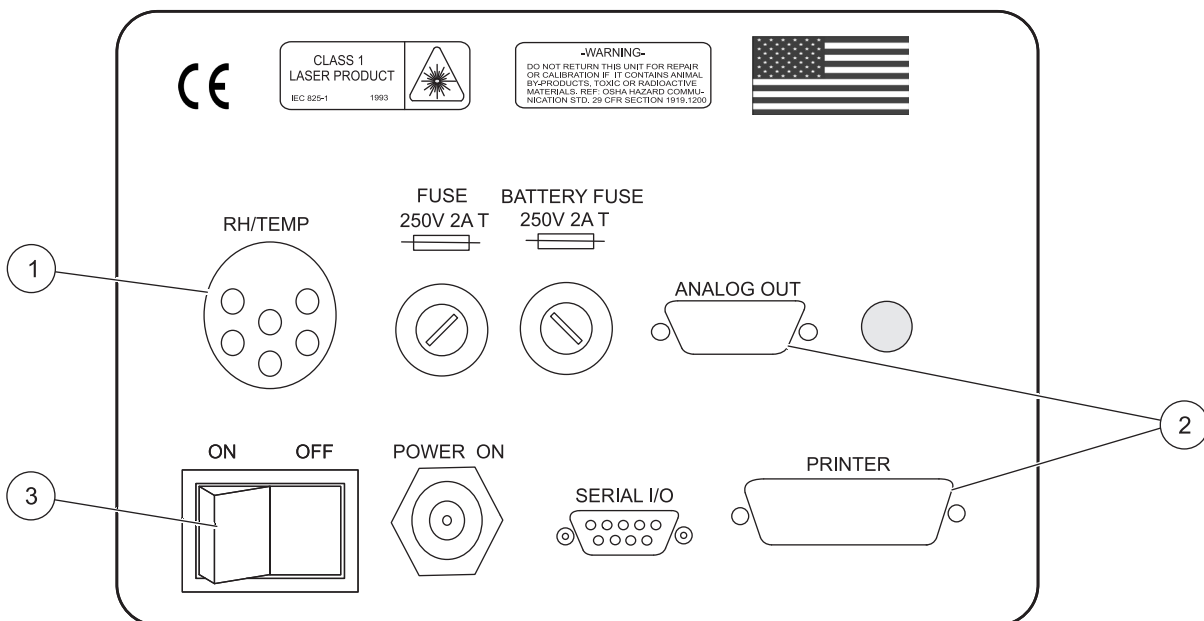
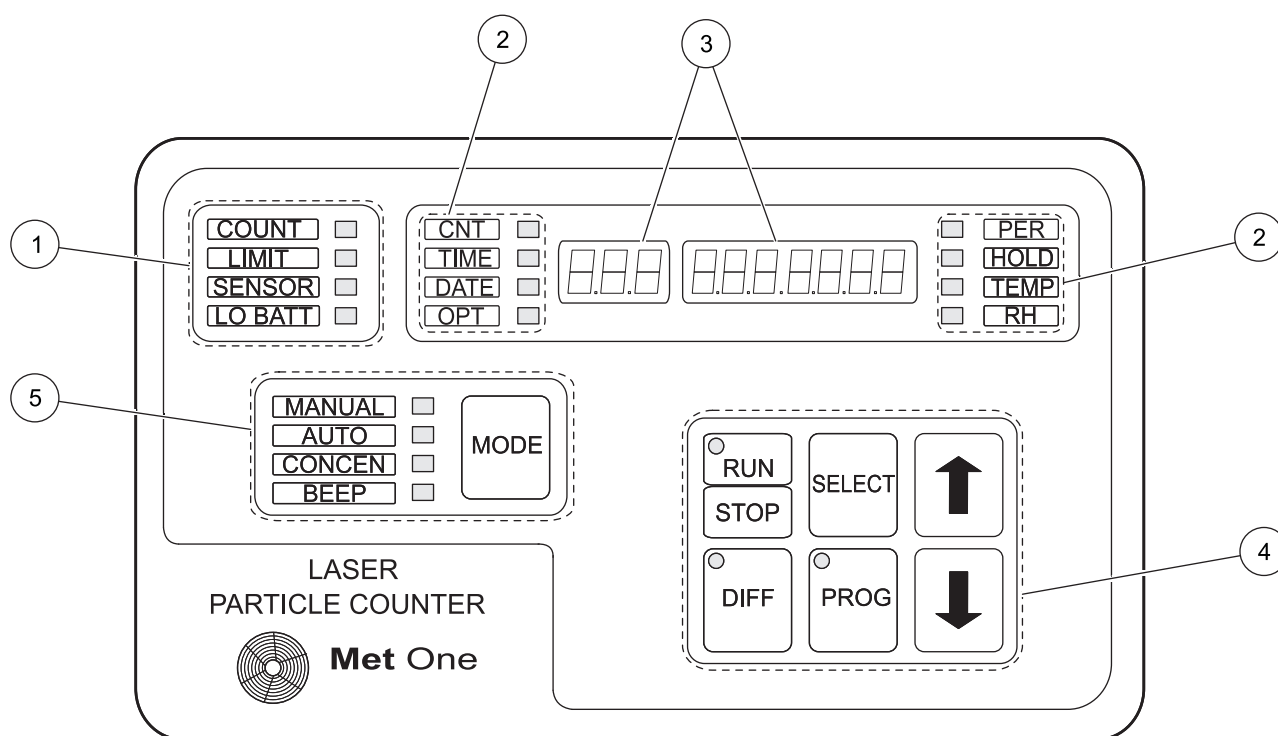

Figure 6 Rear panel connections
Figure 7 Front panel of the MET ONE 237 particle counter
2. Attach the AC adapter to the power input jack (refer to Figure 6 on page 12) at the back of the MET ONE 237 particle counter.
1. The RH/T probe is connected to the back of the unit (refer to Figure 6 on page 12, item 1).
The power switch, fuse holders and all connectors are on the rear panel of the counter as shown in Figure 6 on page 12.
Turn on the switch at the back of the MET ONE 237 particle counter (refer to Figure 6 on page 12). The counter will display the main screen when turned on (Figure 7 on page 15). If the **LO BATT** indicator is lit, plug in the AC adaptor to charge the battery. The counter may be operated during the charging of the battery.
The front panel of MET ONE 237 (refer to Figure 7) particle counter consists of:
In the Manual counting mode, the counter will take one sample of the programmed length (default is 6-seconds) and stop. The **CNT** light will be lit in the display mode (refer to Figure 7 on page 15, item 4). The particle sizes being monitored will be displayed in the 3-digit display and the actual cumulative counts will be displayed in the 7-digit display. For example: **00.5 0000000**.